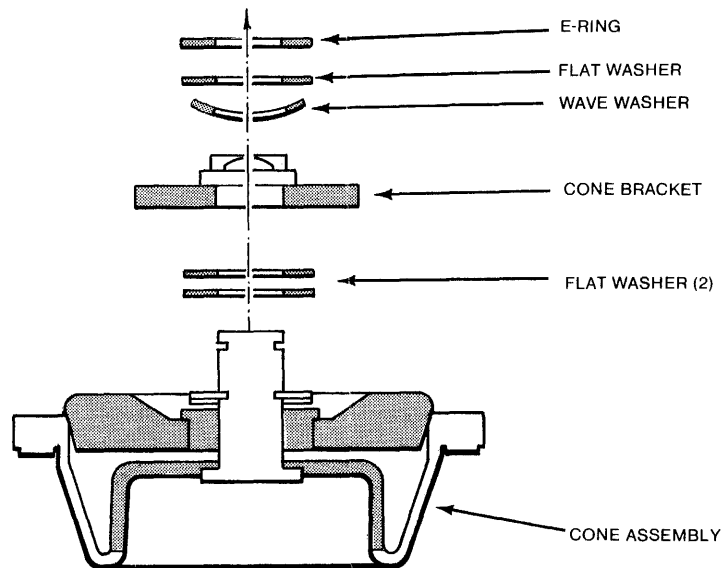

Figure 5-5
- B. Carefully insert the E-Ring, flat washer, and wave washer that holds on the cone shaft (see Figure 5-5).
- E. Insert the screw that attaches the cone bracket to the cone alignment arm(see Figure 5-5).